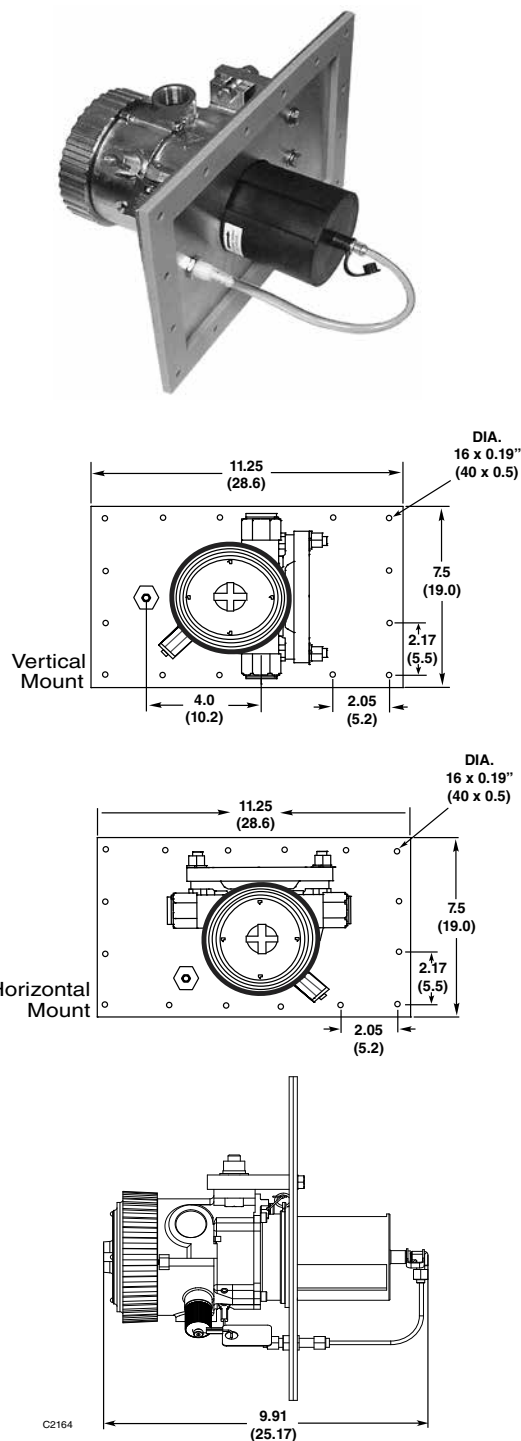

Figure 1—Dimensions of Duct Mount in Inches (Centimeters)
See Figures 1 and 2.
2. Mark and drill the appropriate plate mounting holes on the duct wall. Refer to Figures 1 and 2 for mounting plate dimensions.